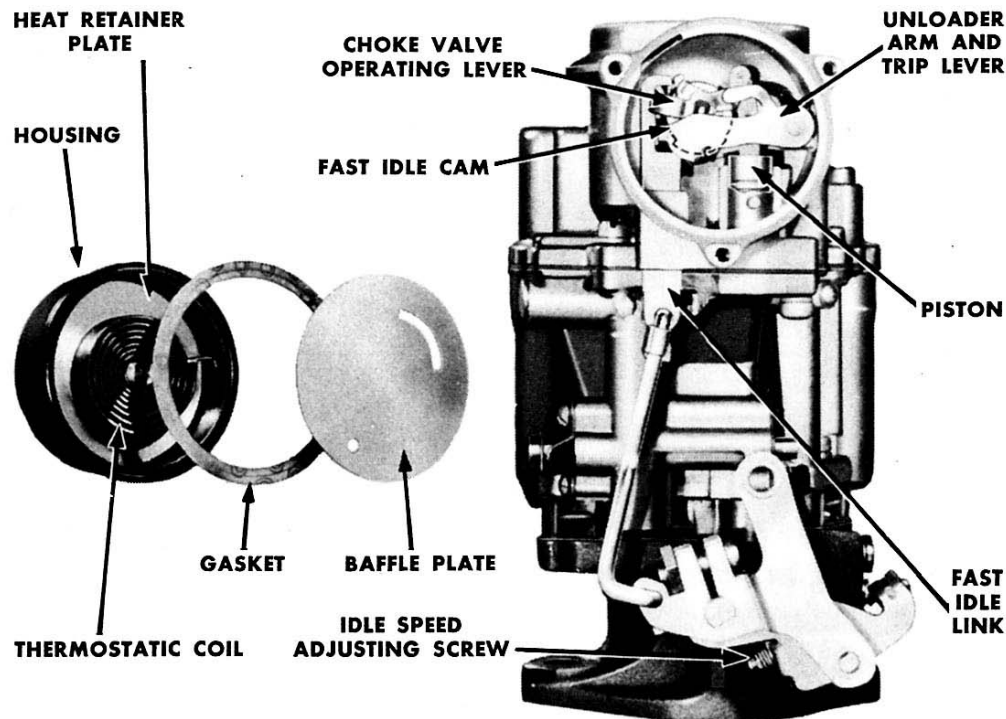

FIG. 13
**HOW TO DISASSEMBLE THE AUTOMATIC CHOKE:** (Figure 13)—You'll find that all parts of the carburetor—with the exception of the choke mechanism—are the same as for the former type carburetor. To disassemble the choke mechanism for cleaning, or for replacement of parts, you first remove the carburetor from the engine. Be sure to hold the brass fitting on the thermostatic coil housing with a wrench when disconnecting the connector tube. This avoids damage to the molded housing.
- (a) Back out the idle speed adjusting screw in the throttle lever (Figure 13) until it is clear of the stop lug on the throttle body.